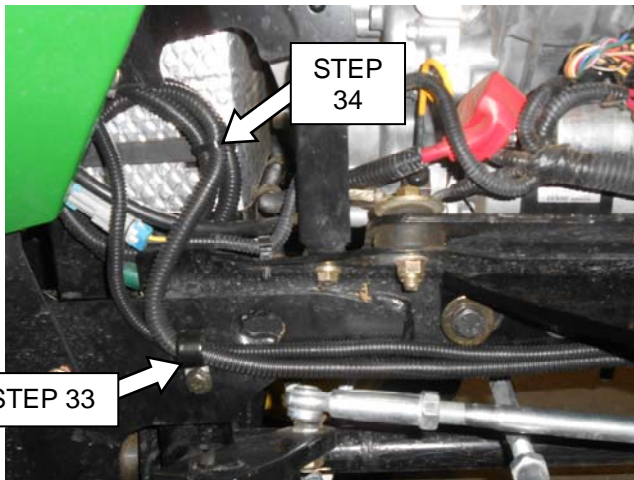

Figure 18
- 33) Secure main relay and breaker harness to 5/16" holes located under the tractor frame area routing to the battery area using (**Figures 18 & 19**);
- 34) Coil excess wire harness and secure using nylon ties (Q). Avoid any hot or moving parts. **DO NOT SECURE WIRE HARNESS TO HIGH PRESSURE FUEL LINES!** (**Figure 18**).